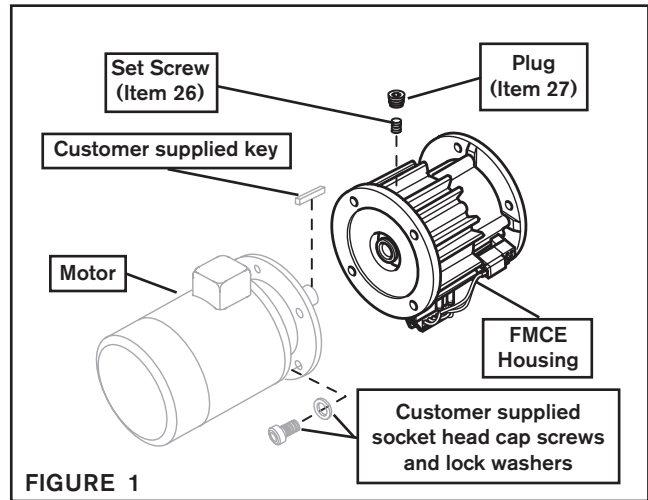

FIGURE 1
1. Insert the customer supplied key into the motor shaft keyway (See Figure 1).
2. Slide the FMCE onto the motor shaft and secure it to the motor using customer supplied socket head cap screws and lock washers (See Figure 1).
3. Align the Set Screw (Item 26) in the Drive Disc (Item 4) with the hole in the FMCE Housing (See Figure 1).
4. Tighten the Set Screw (Item 26); then, install the Plug (Item 27) (See Figure 1).